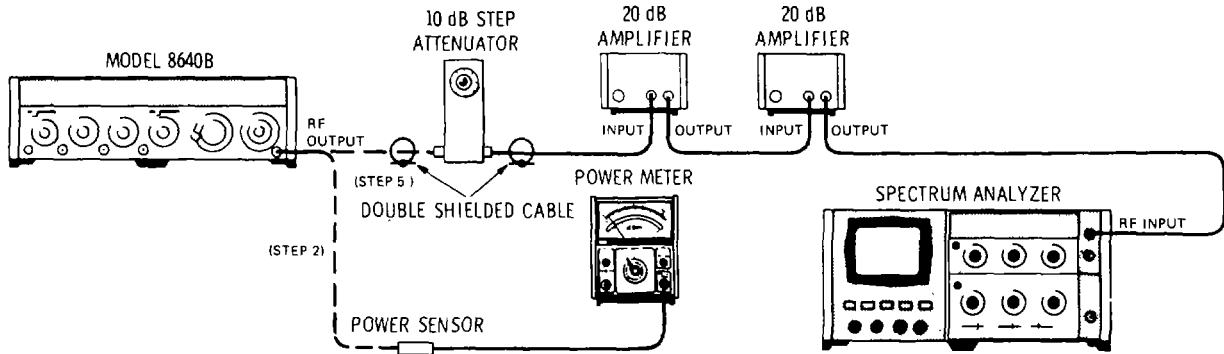

Figure 4-10. Output Level Accuracy Test Setup (Abbreviated).
1. Connect equipment as shown in Figure 4-10 after setting Signal Generator's controls as follows: